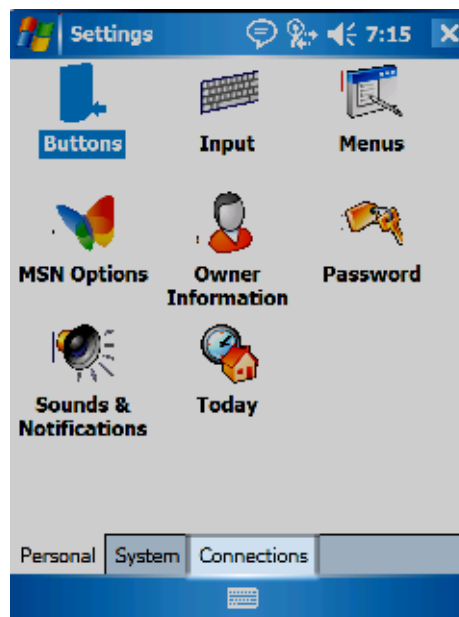

Figure 31: Connections tab
- From the Settings window, tap the **Connections** tab (Figure 31).